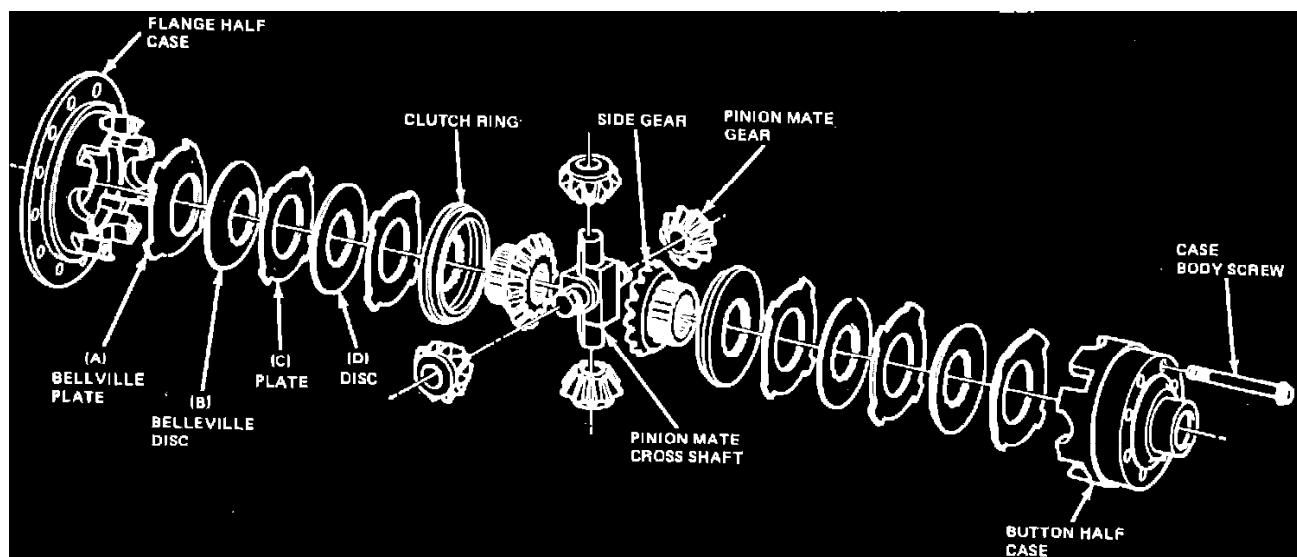

Fig. 12 Dana Power-Lok locking differential exploded view
3. Loosen but do not remove the case half retaining bolts, **Fig. 12**.